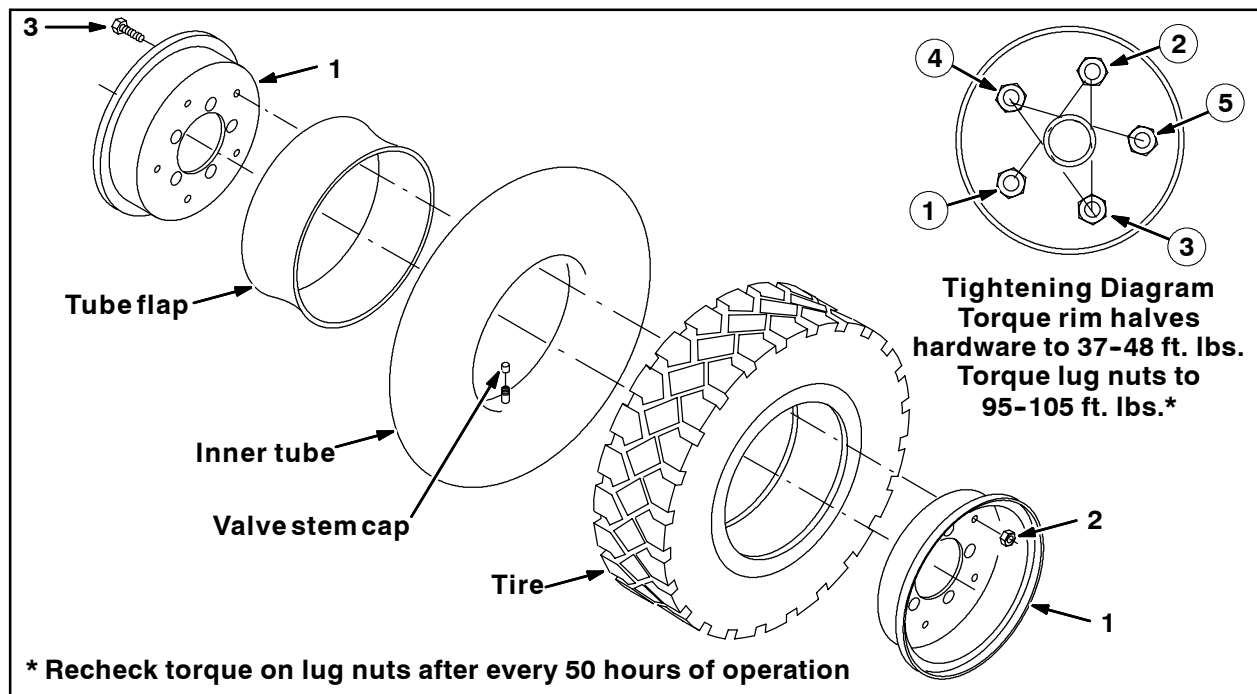

FIG. 1
3. Position the tube flap, inner tube, and tire between the inner wheel shell and outer wheel shell of the wheel rim assembly (1) and use the five hex lock nuts (2) and the hex screws (3) to secure the inner wheel shell to the outer wheel shell. Torque to 37-48 ft. lbs. Tighten hardware twice as shown in the Tightening Diagram. Refer to Fig. 1.
5. Use the lug nuts to reinstall the rear tire onto the machine. Tighten lug nuts as shown in the Tightening Diagram in Fig. 1. Torque lug nuts to 95-105 ft. lbs. Recheck torque after every 50 hours of operation.